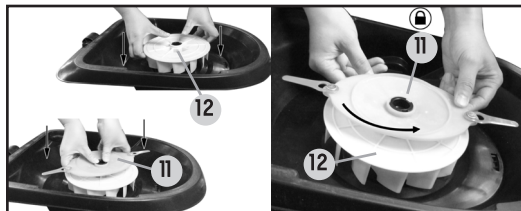

Fig. 9
- 3 To refit the fan (12) and set the cutting height (Fig. 9), replace the fan (12) as illustrated on to the motor drive shaft. Position the cutting head (11) onto the motor drive shaft according to the height of cut you need. Position the blades flush with the fan if you want the higher setting (33 mm). Turn the cutter head (11) the other way around, with a larger space between the fan (12) and the cutting blades, if you want the lower cutting height setting (10 mm). Hold the fan (12) firmly and twist the cutting head (11) clockwise as illustrated. Ensure it is securely locked into position.